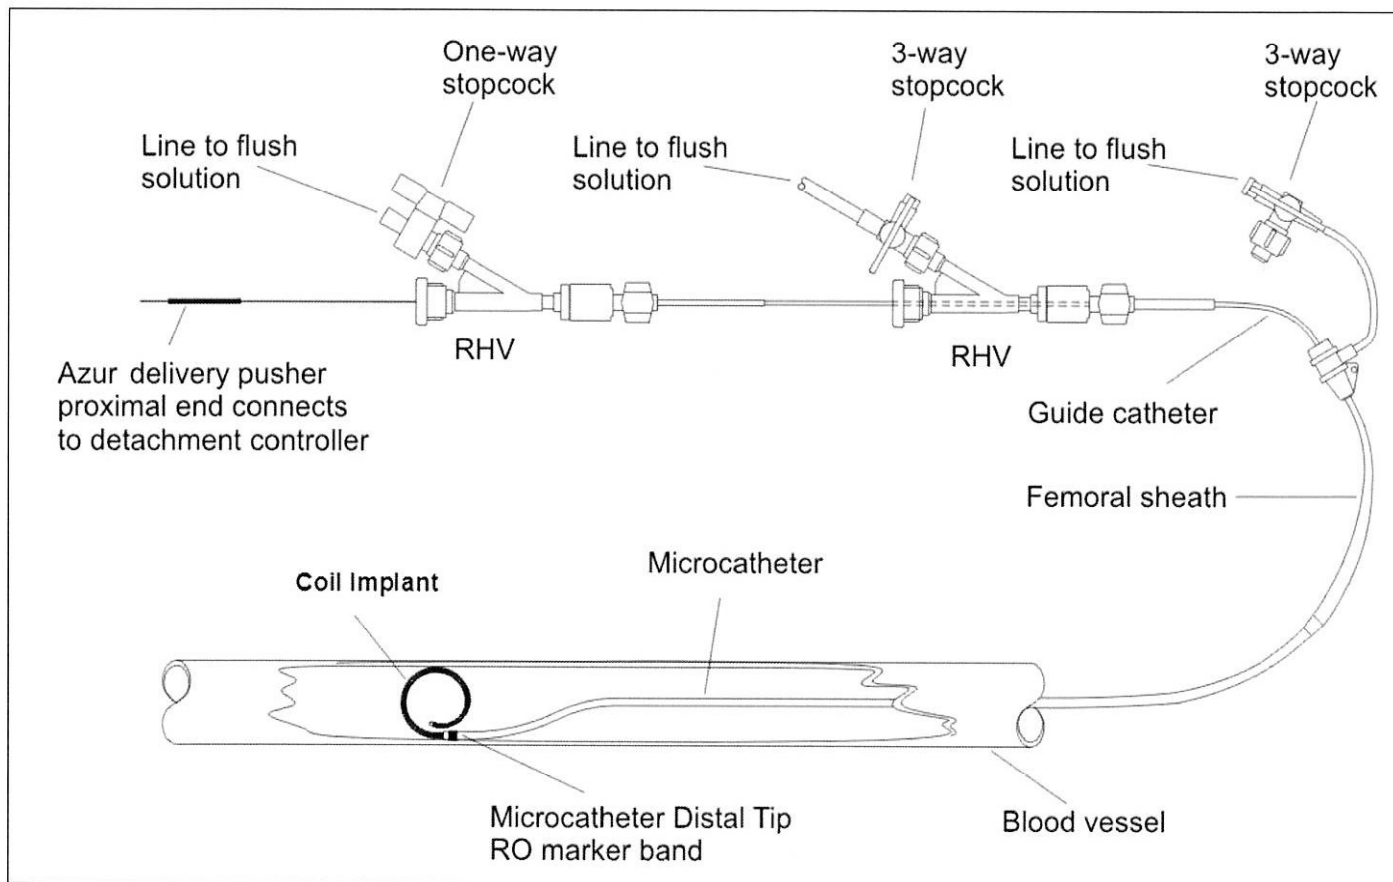

Figure 1 – Diagram of Azur System Setup
1. Refer to Figure 1 for the set-up diagram.
5. Using standard interventional procedures, access the vessel with a guide catheter. The guide catheter should have an inner diameter (ID) large enough to allow for contrast injection while the microcatheter is in place. This will allow for fluoroscopic road mapping during the procedure.